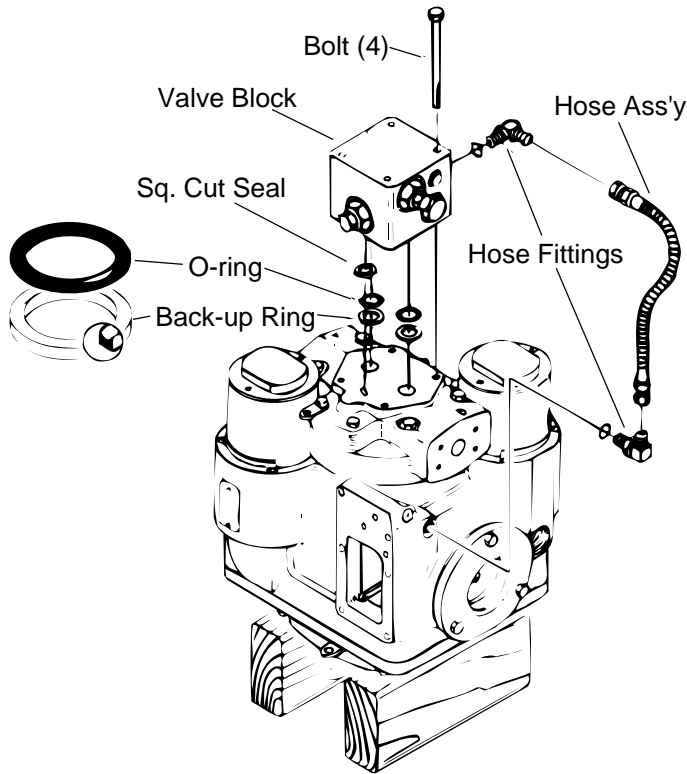

Figure 37
**104** Install new o-rings and back-up rings in the grooves around the high pressure ports as shown in figure 37. Install a square-cut seal in the groove around the low pressure port. Use petroleum jelly to hold these sealing rings in place while the valve block is installed.